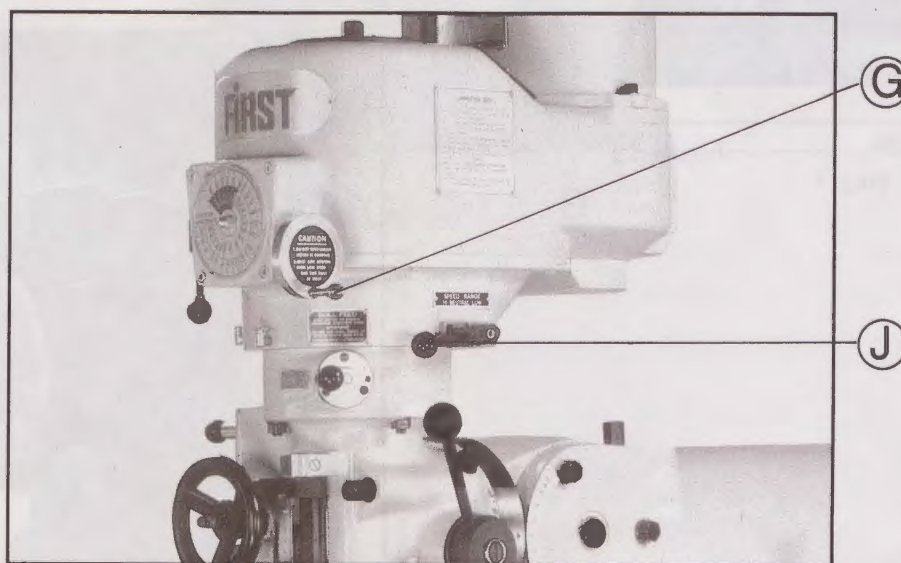

Figure 13
The speed change may be effectuated by the chosen high and low speed lever (Figure 13(J)). When (J) is engaged in the right front, it is for the high speed and the spindle may rotate as high as 500 to 3,000RPM. When (J) is positioned at the right rear, the spindle may have a speed of 60-580RPM. The neutral lever position is in the right down.
Stepless speed variation between high and low speeds may be controlled by means of the turning handwheel (Figure 13(G)) When it is turned clockwise, it is for higher speed, and vice-versa.